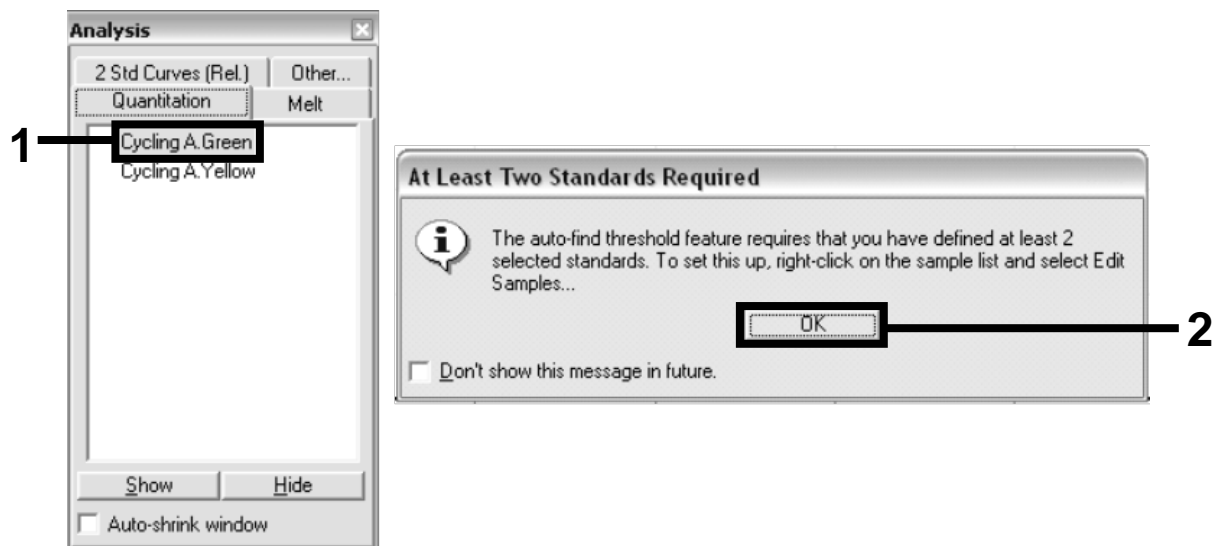

Figure 9. Quantitation: "Cycling A. Green".
18. In the "Analysis" dialog box (Figure 9), double-click "Cycling A Green", and then "OK". Repeat for Cycling A yellow.